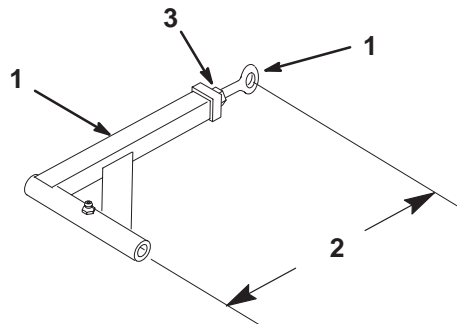

Figure 51
- Loosen the jam nut and rotate the ball joint counterclockwise, one turn at a time (Fig. 51).
- Adjust each side the same amount. Each push arm should have a nominal length of 15-5/16 in. (389 mm) (Fig. 51).